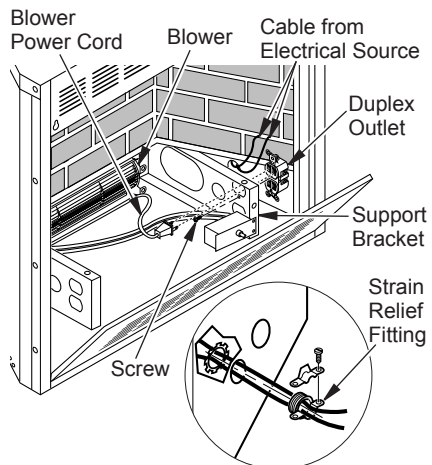

Figure 14 - Connecting Duplex Outlet
2. If using blower, install duplex outlet to the right support bracket in the bottom of firebox (see Figure 14). See *Accessories*, page 29. If not using blower, go to step 7.
3. Route wires from electrical box through smallest hole in outer casing using strain relief fitting provided (see Figure 14).